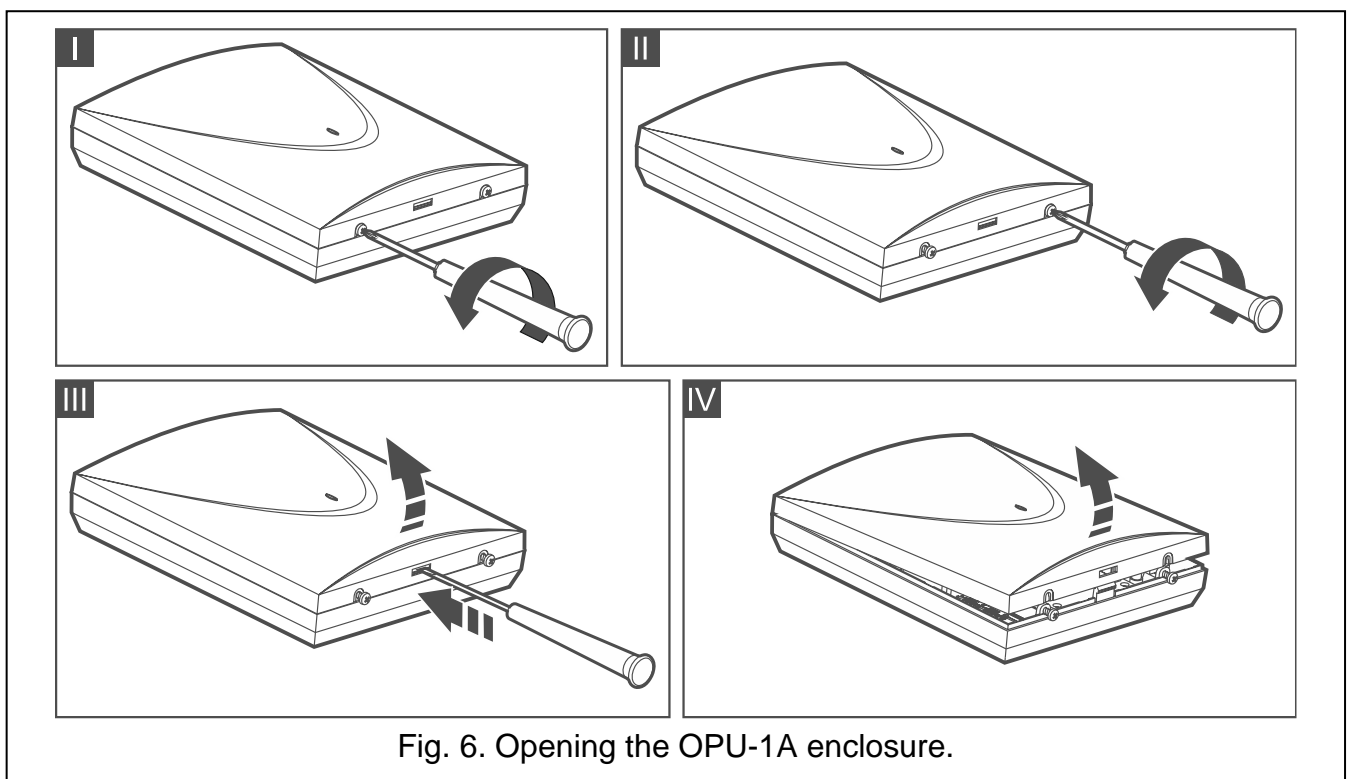

Fig. 6. Opening the OPU-1A enclosure.
1. Loosen the screws locking the enclosure cover and remove the cover (Fig. 6).